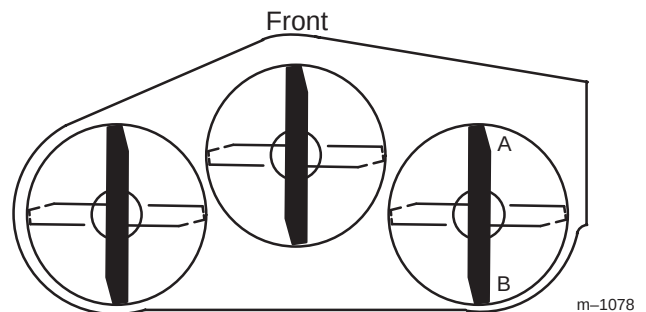
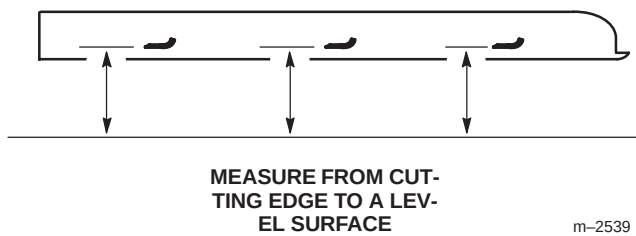

Figure 63
Figure 64
1. Position the **right** blade front-to-rear (Fig. 63).
2. Measure the right blade at the **A** location (Fig. 63), from a level surface to the cutting edge of the blade tip (Fig. 64).
4. Measure the right blade at the **B** location (Fig. 63), from a level surface to the cutting edge of the blade tip (Fig. 64).
6. The mower blade should be a **1/4 to 3/8 inch (6 to 10 mm) lower at position A than at position B** (Fig. 63). If it is not correct, proceed to the following steps.